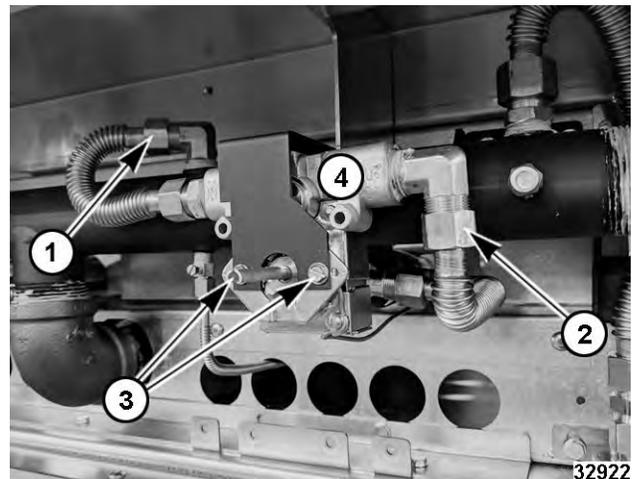

Fig. 98
6. Loosen inlet (1, Fig. 98) and outlet (2, Fig. 98) compression nuts.
7. Remove mounting screw (3, Fig. 98).
8. Remove thermostat body and capillary tube assembly (4, Fig. 98).